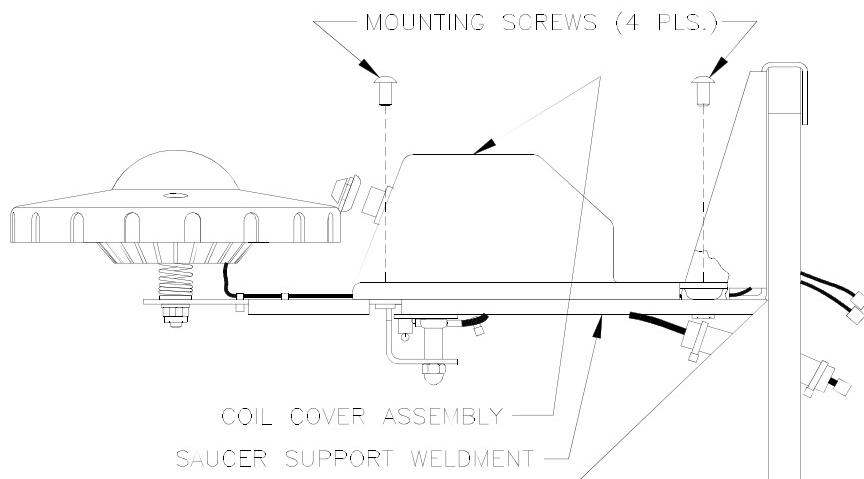

FIGURE 2
2. Place Playfield Plastic Assembly #5 to the side and remove the four mounting screws (p/n FSM-083-PSM031C) that mount the COIL COVER ASSEMBLY (p/n A-20870) to the Saucer Support Weldment (p/n 04-10315.1). You may now access and/or service the Saucer Coil Assembly (p/n PIN-AE-261500), the saucer Armature (p/n AFM-04-10361) or the Saucer Cables (p/n AFM-CBL-SUCRCBL & AFM-CBL-SACRSHK). (See Fig.2 & 3)